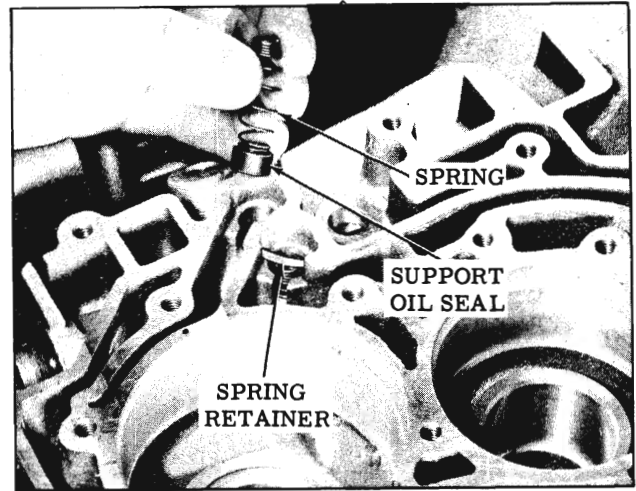

Fig. 3-316 Installing Case Support Seals
55. Install 2 case support to case seals on springs then install into case and push retainers into place. (Fig. 3-316)